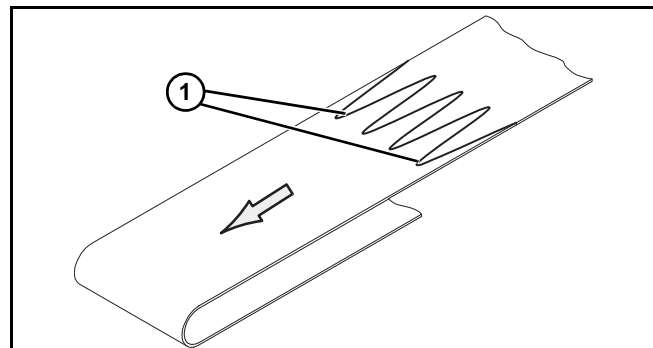

Figure 41
1. Orient the conveyor belt so that the splice leading fingers (Figure 41, item 1) point in the direction of belt travel, indicated by the label (Figure 40, item 1).